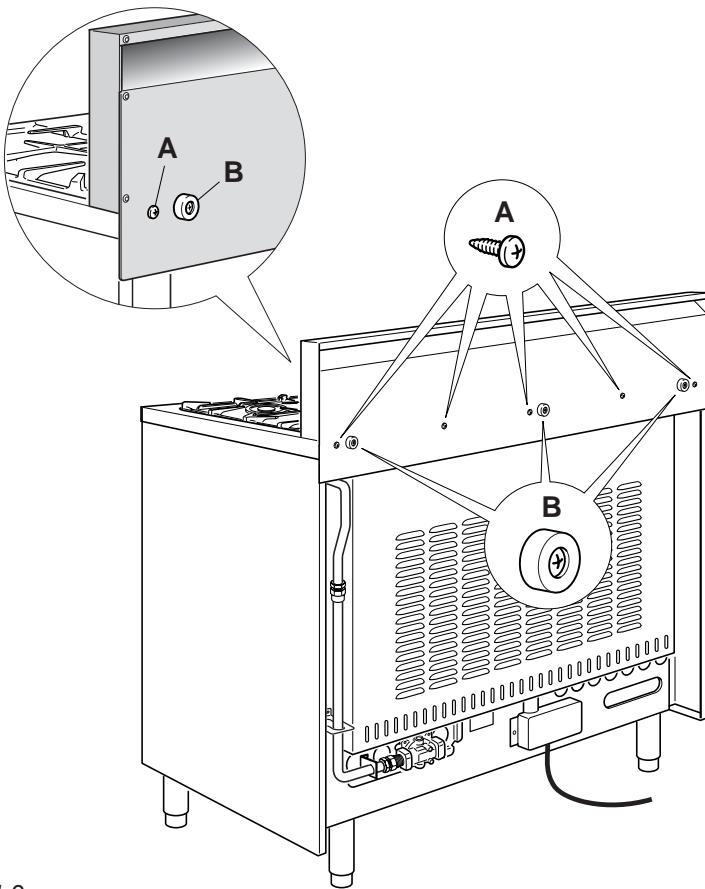

Fig. 1.8
- Assemble the backguard or the island trim as shown in figure 1.8 or 1.9 and fix it by screwing the 5 screws "A" (which are already fixed on the back of the cooktop).